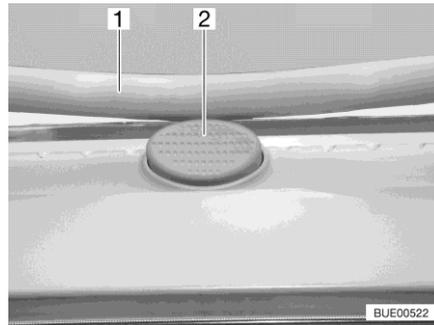

Fig. 107 Safety knob (Heki skylight)
- Press the safety knob (Fig. 107,2) and pull the bar (Fig. 107,1) down with both hands.
- Push the bar upwards with both hands until it is above the safety knob (Fig. 107,2).